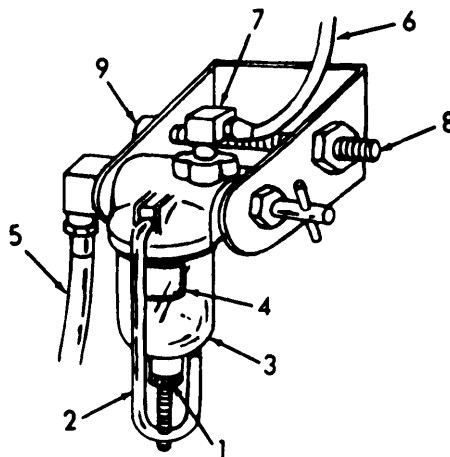

Figure 4-2. Fuel line and filter removal.
(1) Refer to figure 4-2. Loosen finger nut (1) on yoke (2) of fuel filter. Swing yoke upward and remove fuel bowl (3) and filter (4).
(1) Using figure 4-2 repeat the removal procedure in reverse sequence.